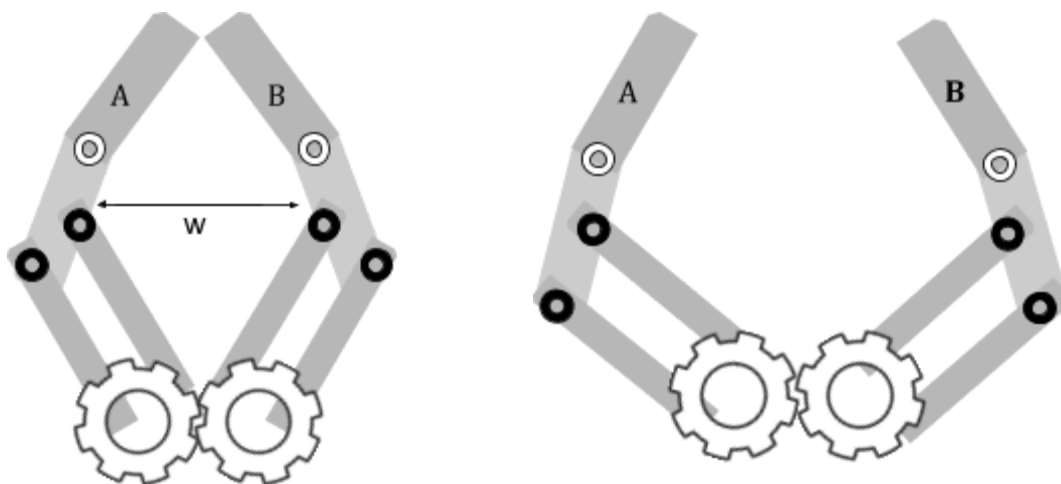

Figure 2: Parallel Pinch Claw Design (Left: Closed Claw, Right: Open Claw)
- This claw allows for variations in the size of objects it can interact with. Using the same bars A and B, this design is capable of picking up smaller objects in comparison to the pivot claw. As you can see,  $w$  is much smaller (*Figure 2*).